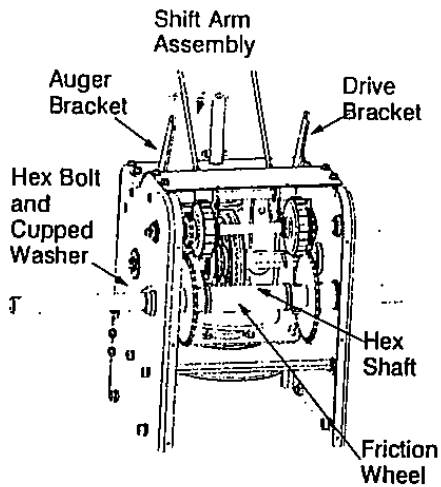

FIGURE 11
Remove auger bolts on auger shaft, see See figure 11. Oil or spray lubricant inside shaft.
- Using a 7/8" wrench hold the hex shaft and remove the hex bolt and cupped washer and bearing from left side of the frame. See figure 11. Hold the friction wheel assembly, and slide the hex shaft out of the unit toward the right hand side.